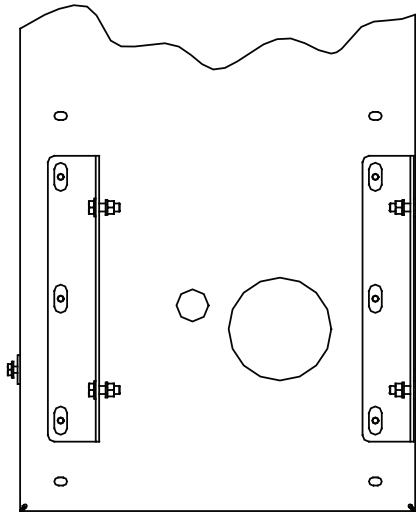

Figure 13 - Mounting Brackets in Position B
2. Using the hardware provided, assemble the two brackets to the back cover as shown in Figure 13. Note that the brackets are mounted so that the angles of the brackets are mounted to the inside. Do not fully tighten these bolts.